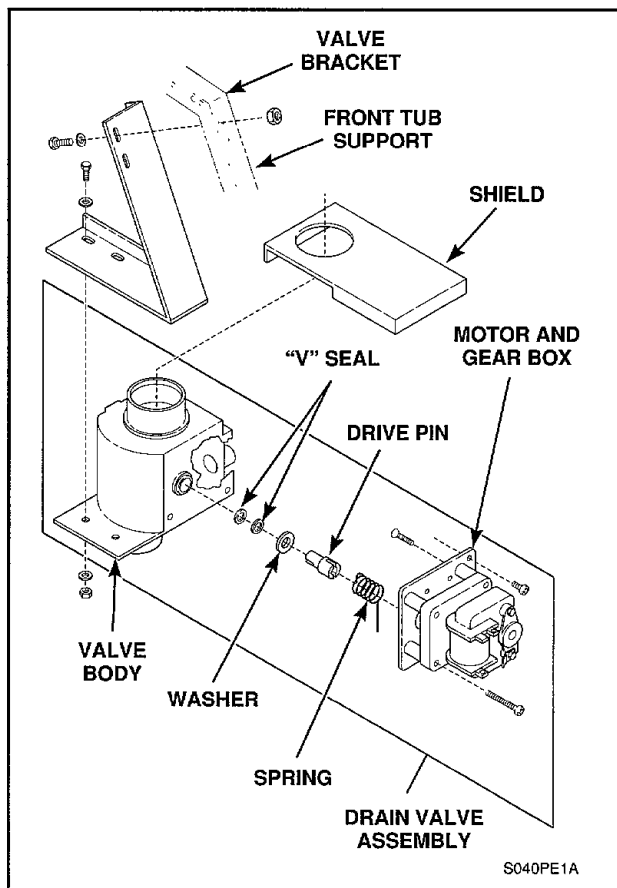

Figure 27
- Remove two screws, washers and nuts holding valve bracket to front tub support, *Figure 27*.
- Remove two screws, washers and nuts holding valve bracket to drain valve, *Figure 27*.
NOTE: Refer to *Figure 27* for drain valve assembly sequence.